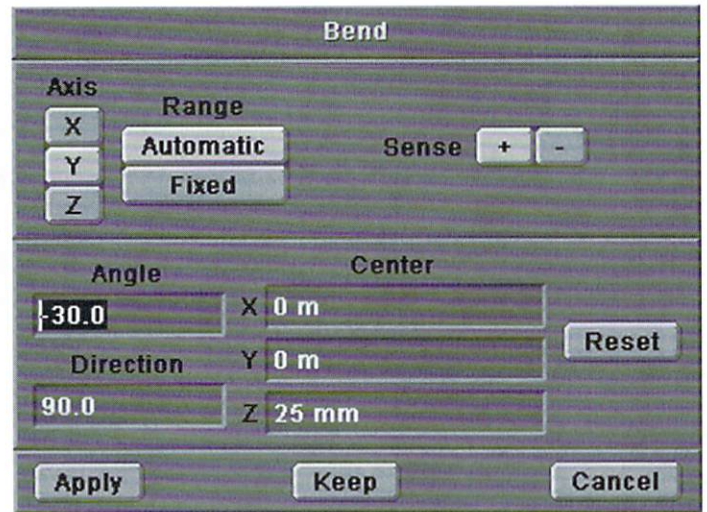

Figure 13: The Numeric requester for the Bend tool.
- Returning to the Modify menu, select the Bend tool again, and click Undo to return to the original upright antenna. Then click Numeric (n). In Bend's numeric panel, find the Angle requester (Figure 13) and make its value negative (e.g., if the value is 30, make it -30, and if the value is -30, make it 30). Do not modify any of the other parameters; they have already been set up from the last Bend operation (which created the Antenna2.lwo object), and we want to make an antenna that is exactly identical except that it bends the opposite way. Click OK to use these values, and save the object as "Antenna3.lwo".